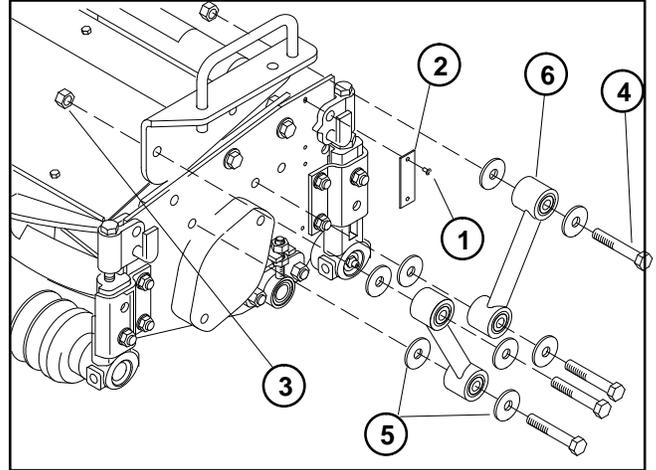
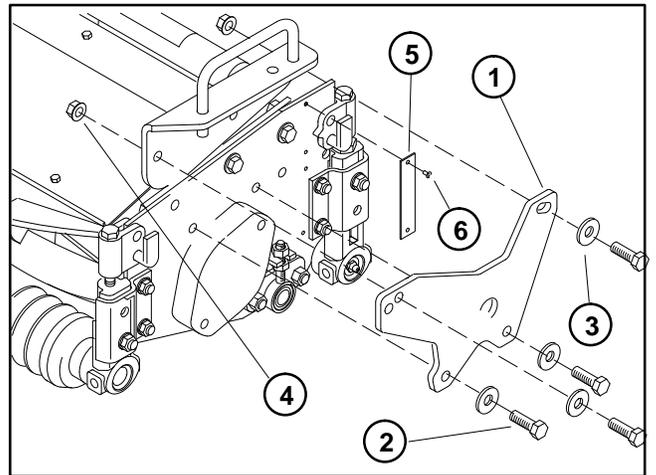

Figure 28
Figure 29
## Fixed Side Plate Installation (Fig. 28 and Fig. 29)
1. Remove pop rivets and rear height-of-cut plates from both sides of the cutting unit (Fig. 28).
2. Remove lock nuts, capscrews, and both links from the cutting unit (Fig. 28).
3. Align fixed side plate with holes on the cutting unit (Fig. 29).
4. Attach new capscrews, washers, and flanged lock nuts to the fixed side plate and the cutting unit (Fig. 29).
6. Fasten new height-of-cut plate to the cutting unit with new pop rivets (Fig. 29).